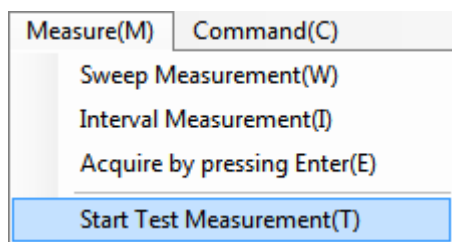
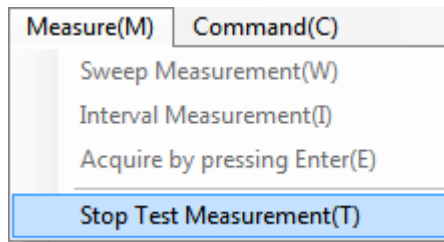

Fig 3-13
Fig 3-14
- (1) Select [Measure]-[Start Test Measurement] of menu bar. (Fig 3-13)
- (2) The measurement will be performed consecutively under the current measurement condition, then the result will be displayed.
- (3) To finish the measurement, select [Measure]-[Stop Test Measurement] of menu bar. (Fig 3-14)